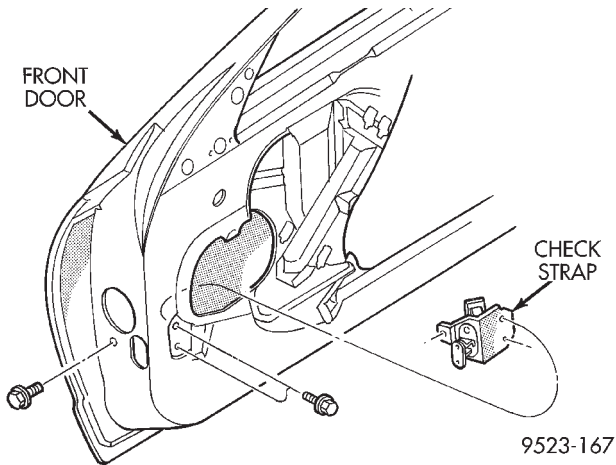

Fig. 24 Front Door Check Strap
- (1) Remove front door trim panel.
- (2) Remove bolt holding check strap to hinge pillar.
- (3) Remove bolts holding check strap to inner door panel (Fig. 24).
- (4) Remove bolt holding check strap to door end frame.
- (5) Separate check strap from vehicle.